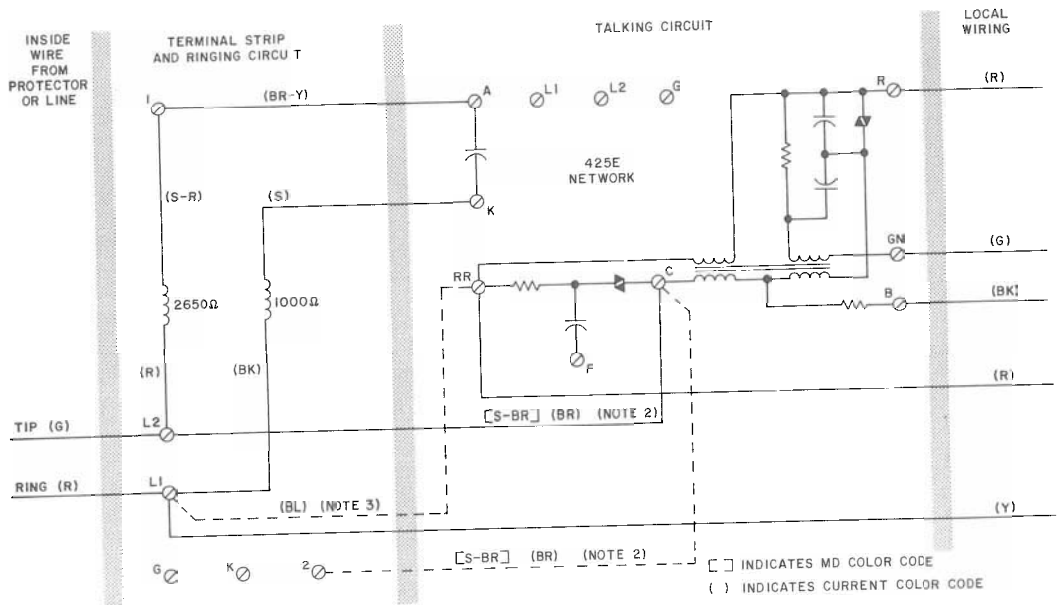

Fig. 3 — Circuit Diagram for Connections with Postpay Manual and Rotary Dial Coin Collectors
- 2.03 See Fig. 3 and Table C for circuit diagram and connections for postpay manual and rotary-dial coin collectors.